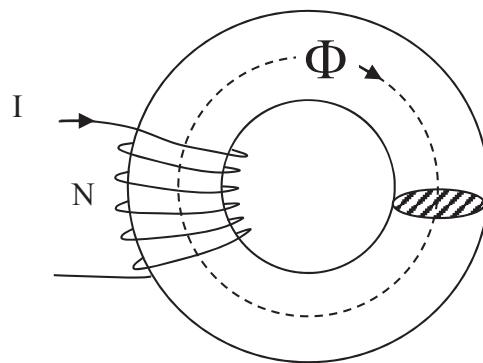

Figure 6.6: Illustration of a ferromagnetic core, μ , wrapped with wire; labeled with magnetic flux line (Φ), current (I), and the number of turns (N).
We have seen so far how to find the direction of \mathbf{B} . We will now consider the relationship between the current, I , in the windings and the produced flux in the core. A typical problem in magnetic circuits would be to determine the amount of current to be supplied to a winding to produce a specific flux in a core. If we take a ferromagnetic core and coil wire around it, the flux will be confined in the core creating an electromagnetic circuit. An example of this electromagnetic circuit is seen in Figure 6.6. (The shaded circle in Figure 6.6 represents the cross-sectional area (A) for the core.)
Consider a winding or coil around a core as seen in Figure 6.6. The winding is a current-carrying conductor. The flux producing ability of the coil is called its **magnetomotive force (mmf)**, \mathfrak{I} , which is defined as: